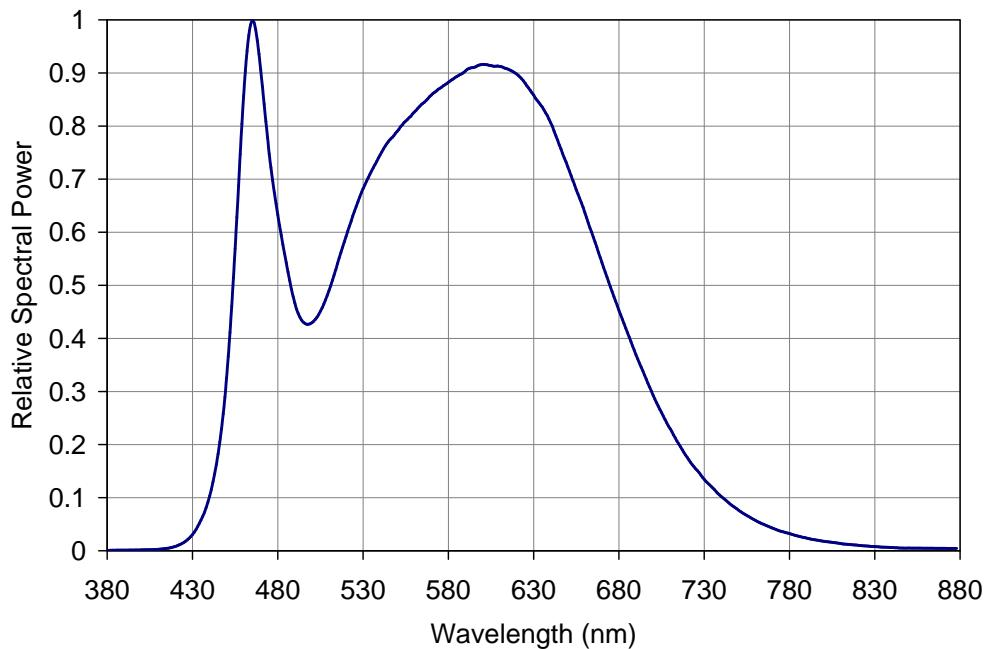

Figure 5: Relative spectral power vs. wavelength @  $T_c = 25^\circ\text{C}$ .
4. Solder conditions per JEDEC 020D. See Reflow Soldering Profile Figure 5.